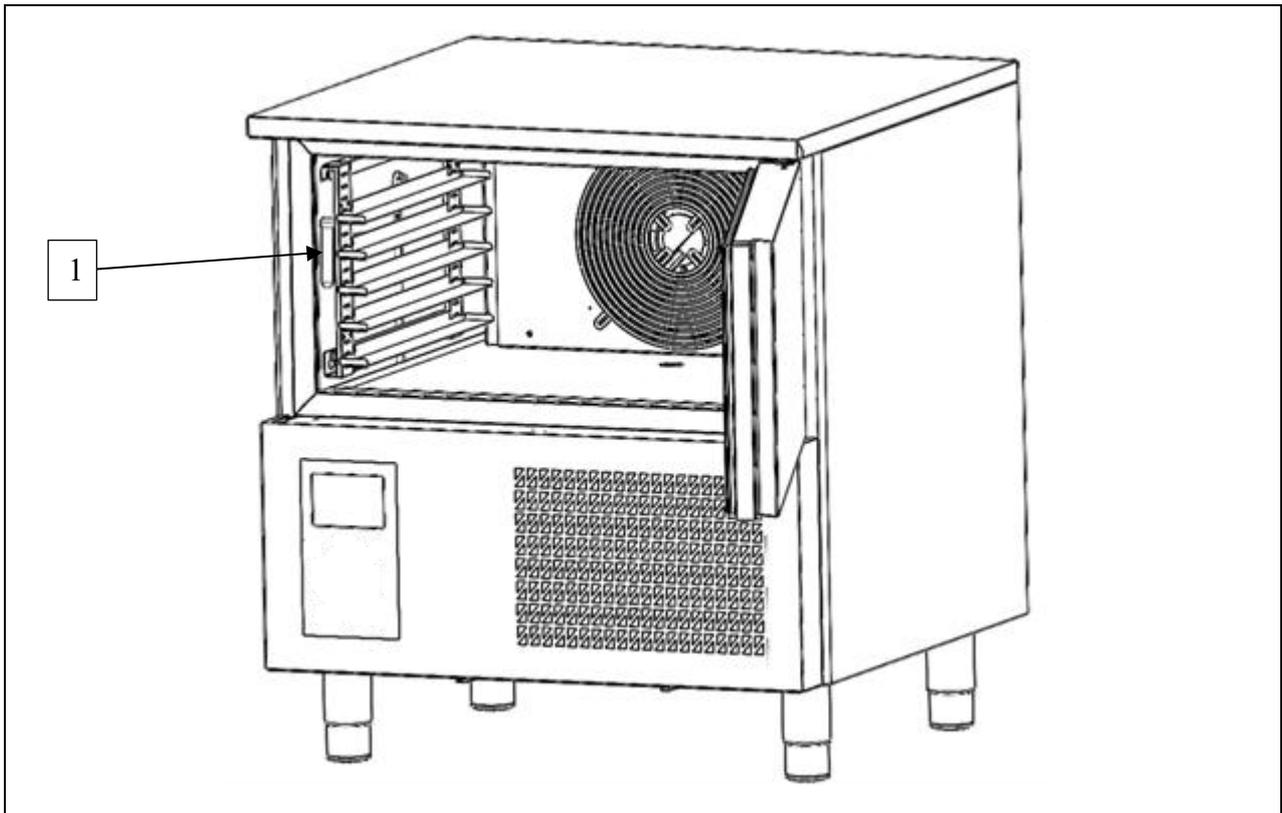

Fig. 10
The core probe (ref. 1 fig. 10) must always be cleaned before a new cycle so as to avoid polluting the product in any way. Remove all residue by means of a sponge soaked in neutral detergent. Rinse with lots of water and apply a sterilising product.